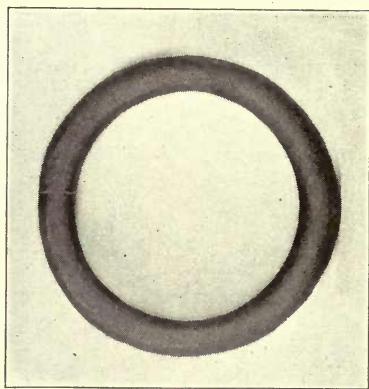

FIG. 14. RING.
6. True the ring where necessary over the horn of the anvil, or a mandrel if you have one. If the two ends are filed a trifle just before the bending is completed they can be brought together in a better joint. Fig. 14 shows the completed ring.